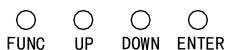

Fig.6
- Press the button FUNC so many times until the display shows [MUS] (fig.6).
- For music control adjust the control SENSITIVITY (14) for the microphone sensitivity so that the dynamic power of the music will be reproduced in an optimum way by the movements of the laser. When changing the pattern or the movement by a music signal, the LED (3) shortly lights up.